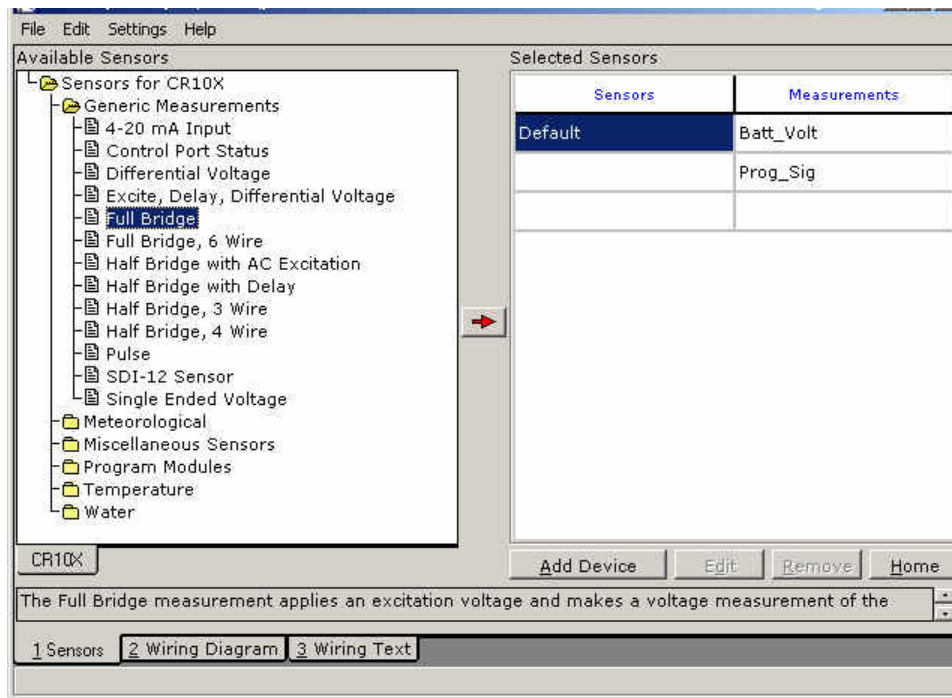
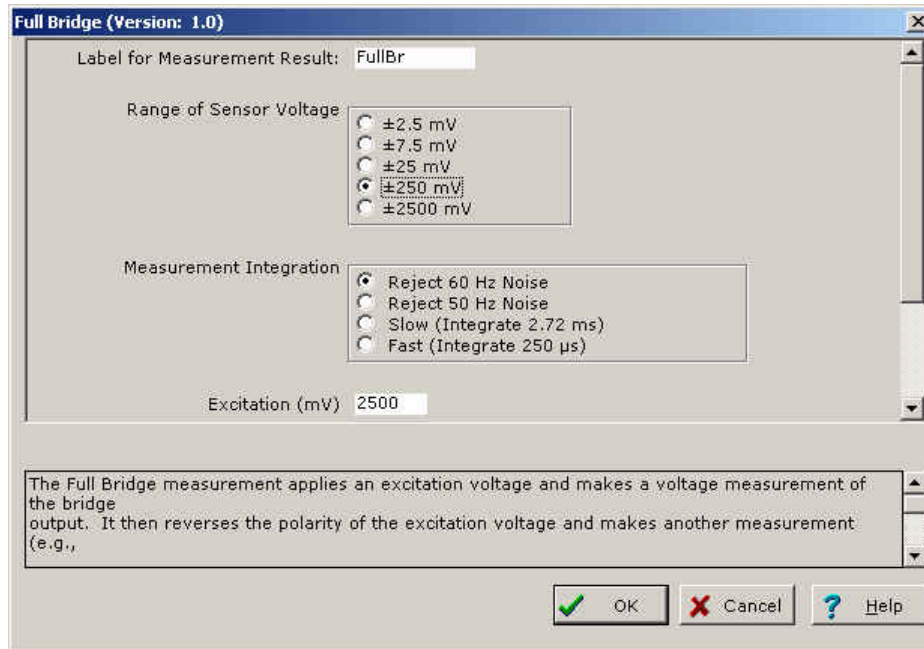
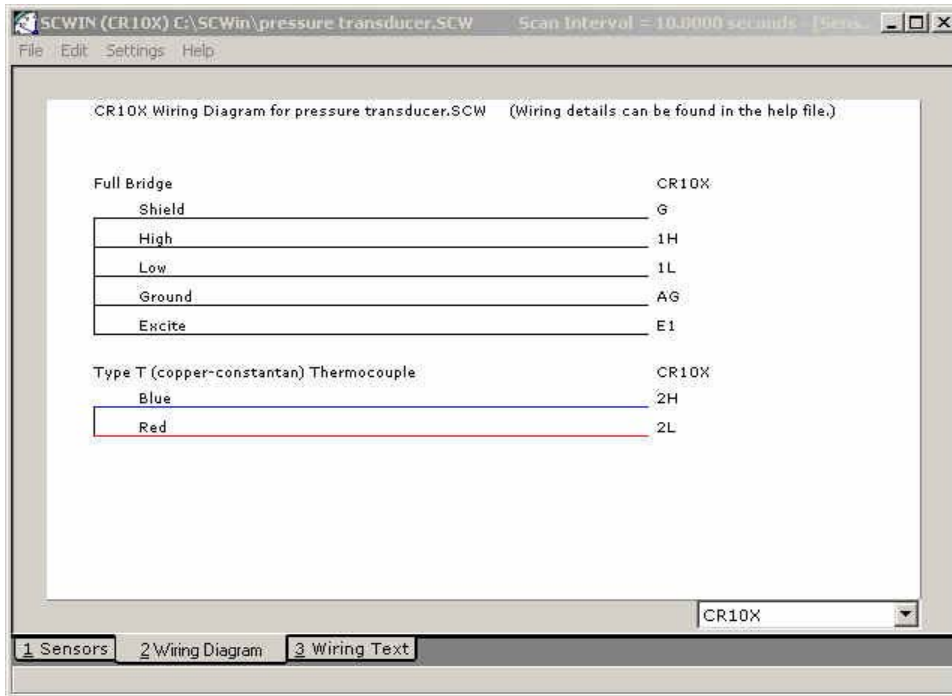

Fig. 10 Defining Transducer
Fig. 11 Setting Range of Sensor Voltage
Fig. 12 Wiring diagram for transducer and thermocouple
3. From the home page press “Sensors”. Under “Available Programs” open the “Generic Measurements” folder. Select “Full Bridge”, the transducer is of this type of circuit, and press the red arrow, or double click it (See Fig. 10). Set the “Range of Sensor Voltage” to +/- 250 mv (See Fig. 11). Then click OK. The sensor should now be listed under “Selected Sensors” on the left side of the screen. Again under available sensors, go to temperature and select the Type T thermocouple as described previously. After the thermocouple has been selected both sensors should be listed under “Selected Sensors”.
4. Press the “Wiring Diagram” button at the bottom of the window as illustrated in Fig. 10 and a window depicting the wiring diagram of the data logger for a pressure transducer and Type T thermocouple appears, see Fig. 12. Connect the blue wire of the thermocouple with the port 2H and the red wire of the thermocouple with the port 2L of the CR10X data logger (you will need a small flathead screw driver to tighten the thermocouple wire down).
Press the “Sensors” button in the window of Fig. 12 and the “home” button in the window of Fig. 10. You should be back now to the main menu (Fig. 1).